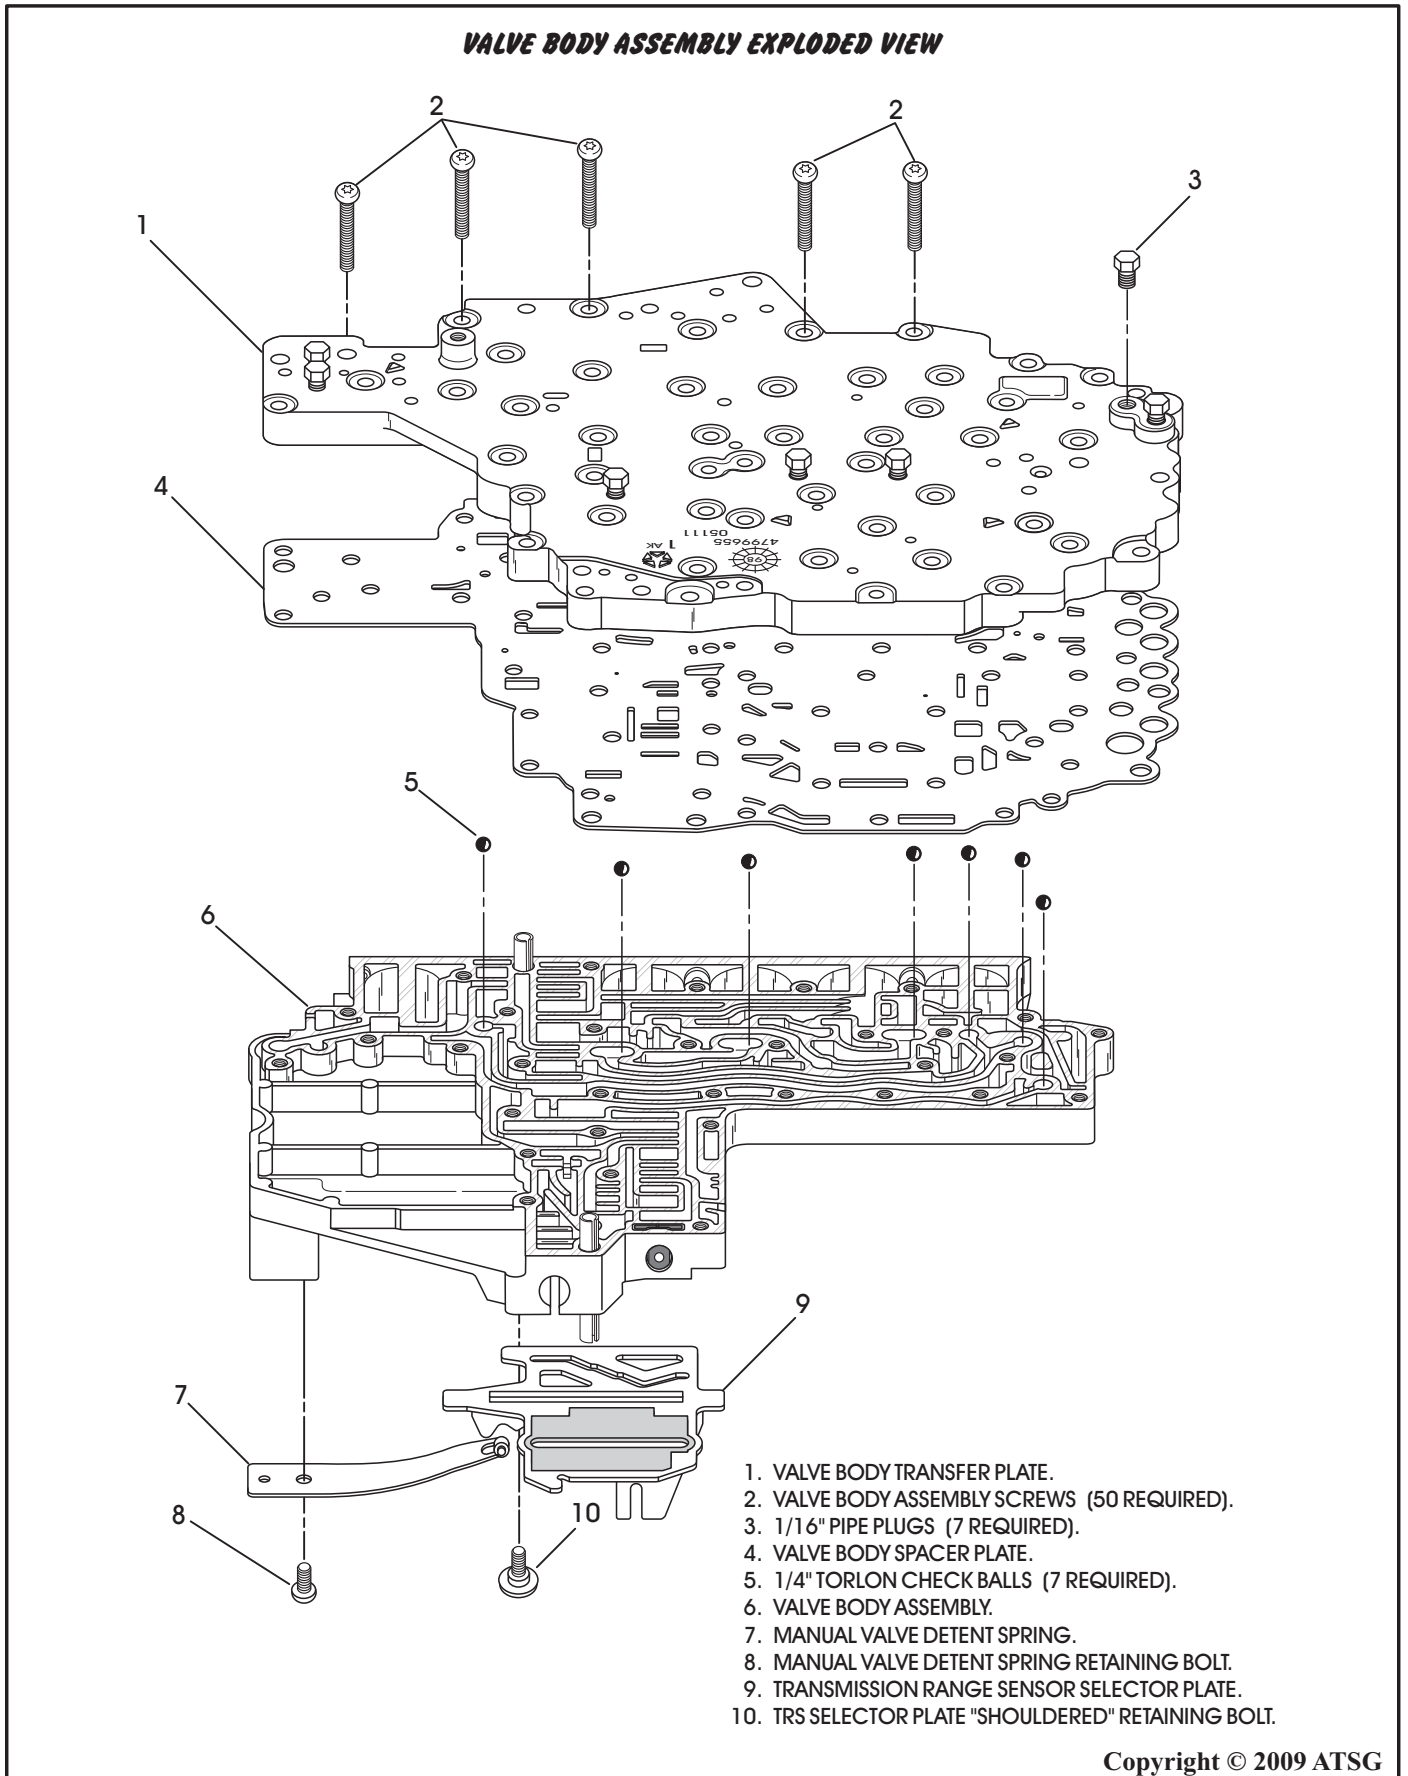

Figure 98
3. Once the TRS/Solenoid Body is separated from the valve body assembly, continue disassembly of the valve body using Figure 98 as a guide.
4. Notice in Figure 98 that the valve body contains seven checkballs. Care should be taken to keep the valve body in the position shown, when you are removing the transfer plate, so as not to lose any of the checkballs.